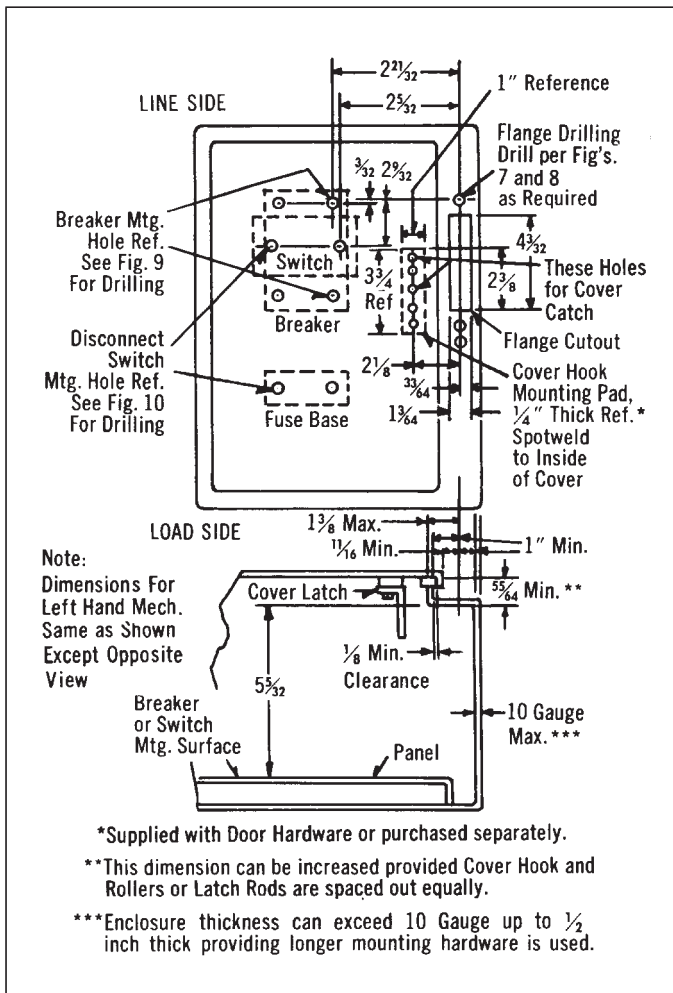
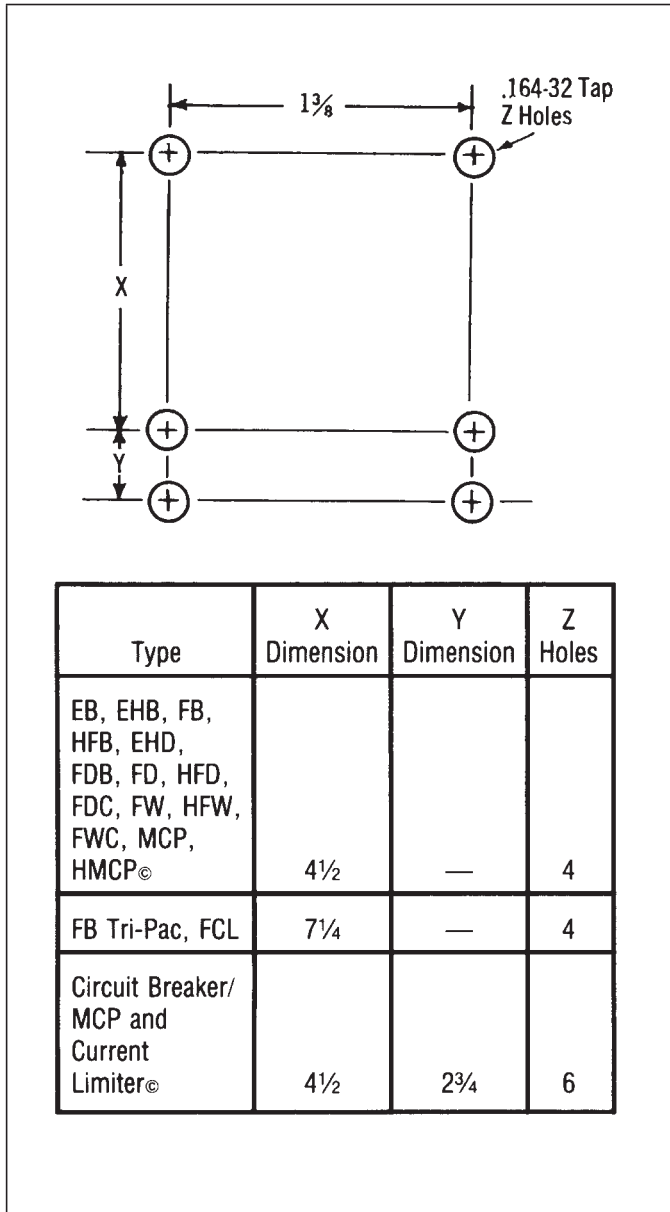

Fig. 6 Recommended Enclosure Dimensions and Flange Cutout
Fig. 9 Breaker Location
If mounting plate (4) is not used, refer to Figure 6 and Figures 9 or 10 for additional drilling for breaker or disconnect switch hole locations.